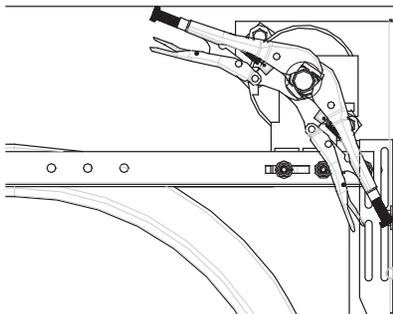

Fig: 3.8.2
- a) Secure the torsion bar using 2 pipe wrenches, tensioning bar or mechanical spring winder as shown in Fig 3.8.2.